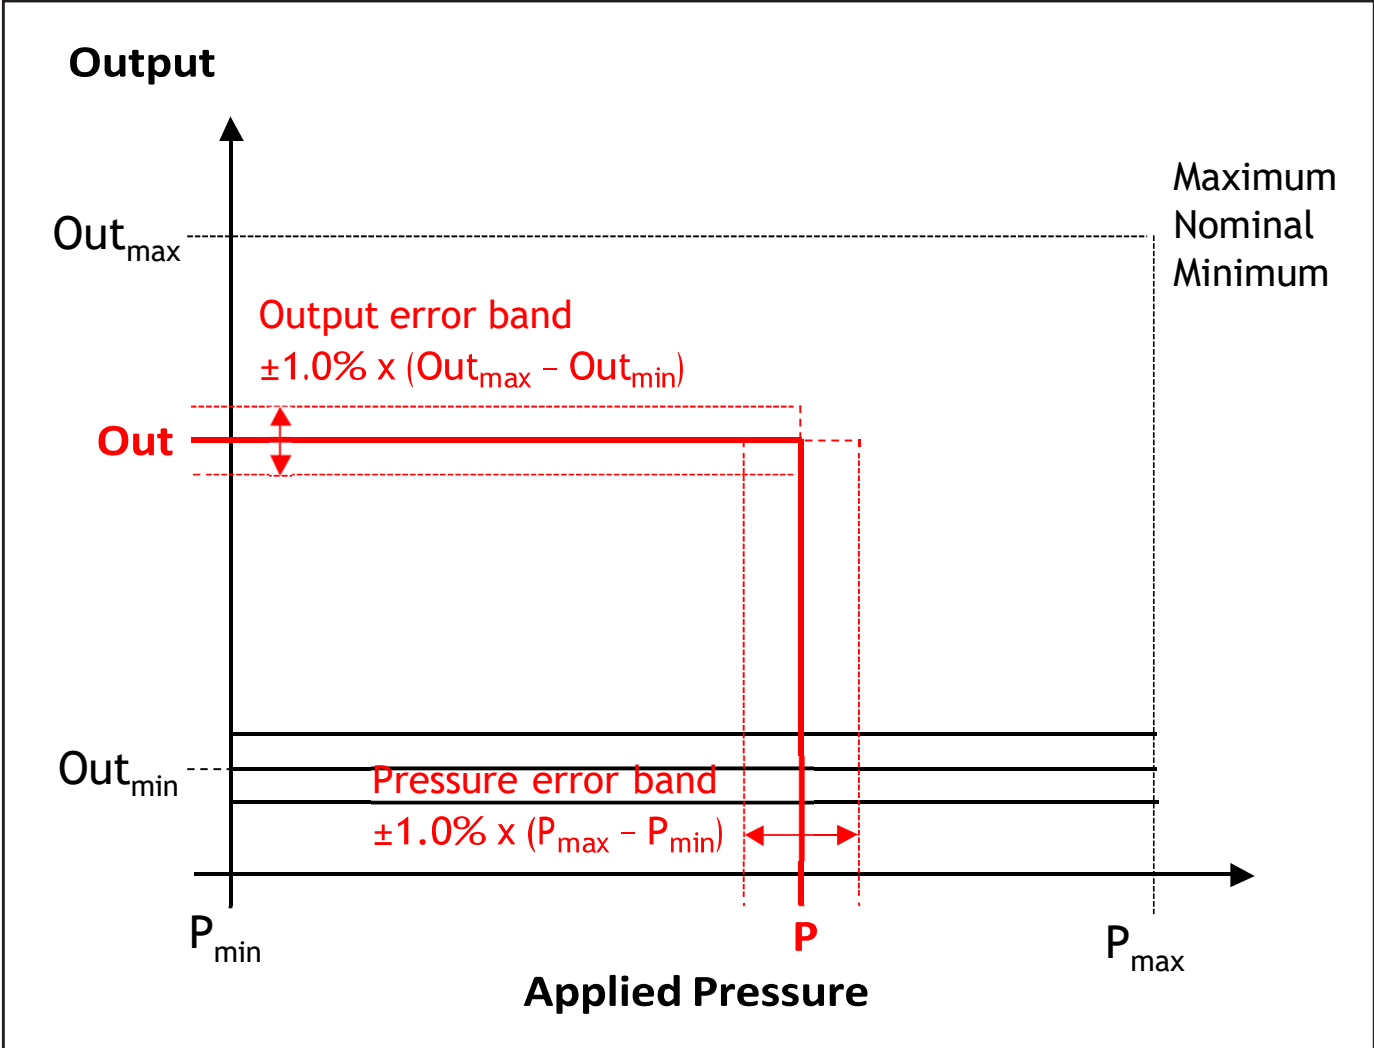

Figure 2: Accuracy of Calibrated NPI-19 Digital Pressure Sensor
The measurement accuracy of calibrated NPI-19 Digital pressure sensor is defined in terms of percentage of full scale (FS) over a specified compensated temperature range. Standard parts are specified to be $\pm 1.0\%$. This accuracy figure is a total error band and includes all errors due to offset, span, linearity and temperature, as illustrated in Figure 2 below.